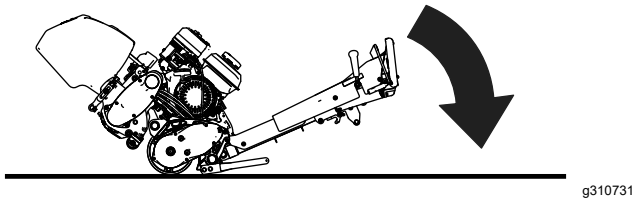

Figure 12
2. Bedknife adjusting screw nut (2)
- With the cutting unit attached to the machine, lower the traction-unit handle to the ground (Figure 12).